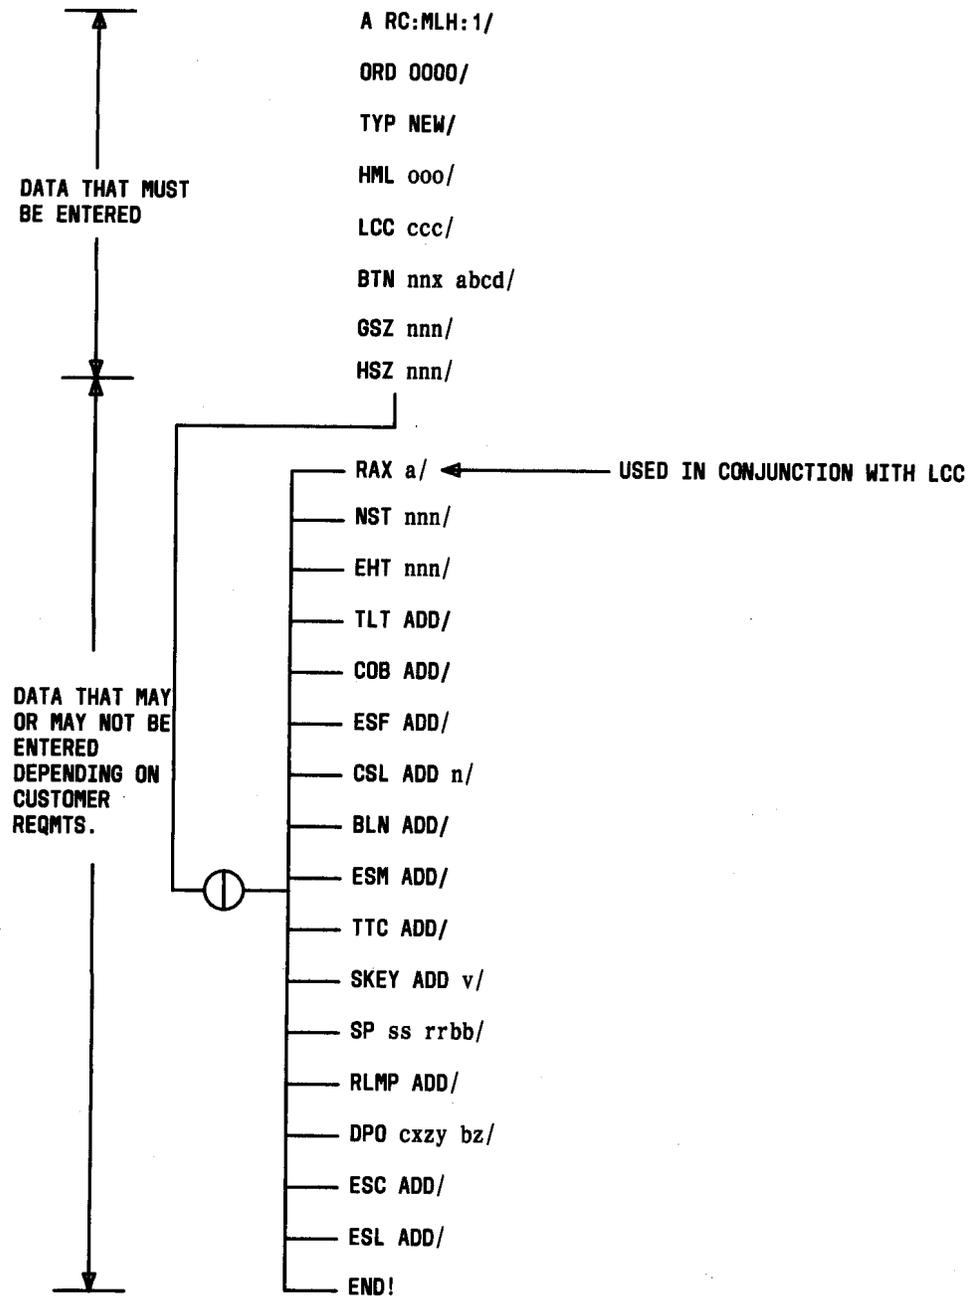

Fig. 13—Multiline Hunting Group Messages—New Assignments Flowchart
5.08 Figure 13 provides the flow diagram indicating the proper keyword format required in the preparation of service order multiline hunting group messages for new assignments.